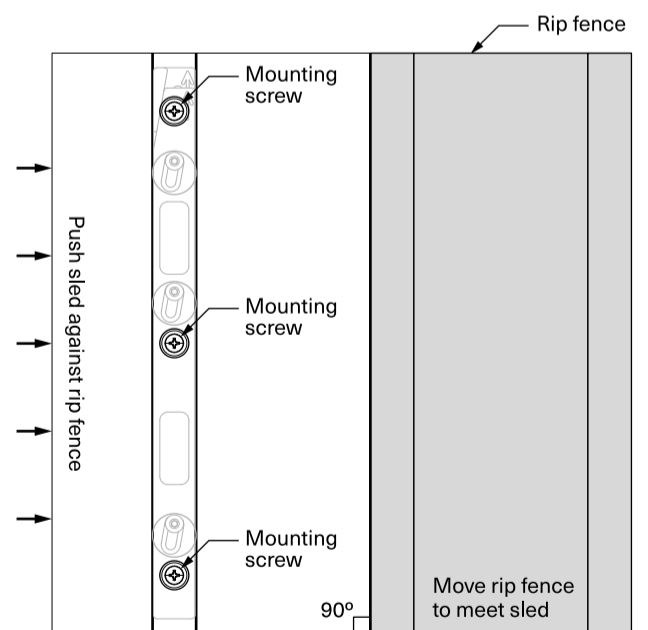

Fig 4a - Top view of sled and rip fence
- Move the rip fence so it touches the side of your sled base and lock the fence in place. The fence position should be close to or slightly past the saw blade [Fig 4a].